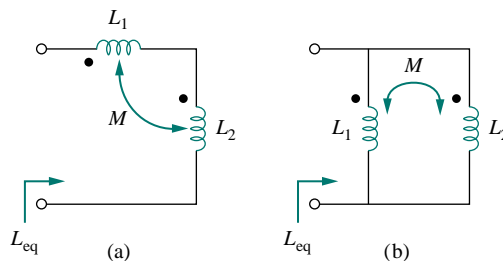

Figure 13.74 For Prob. 13.4.
13.4 (a) For the coupled coils in Fig. 13.74(a), show that
(b) For the coupled coils in Fig. 13.74(b), show that